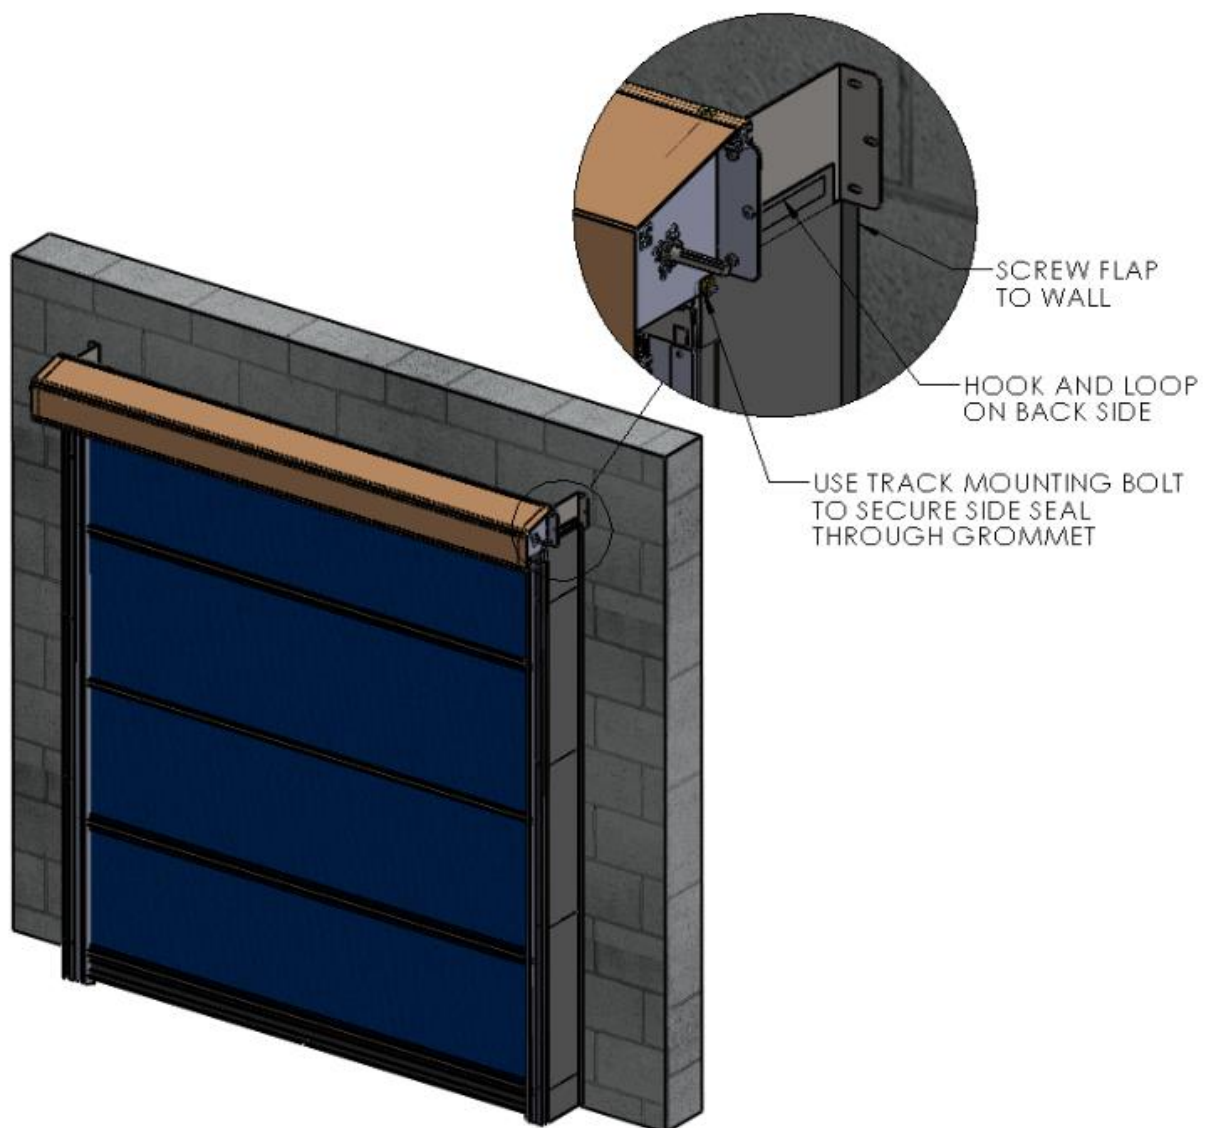

Figure 10 SECURE SIDE SEAL
(Figure 10 SECURE SIDE SEAL)
2. Fold the Side Seal Material to flatten it against the wall, and secure it through the material into the wall with appropriate screws. (Figure 10 SECURE SIDE SEAL)